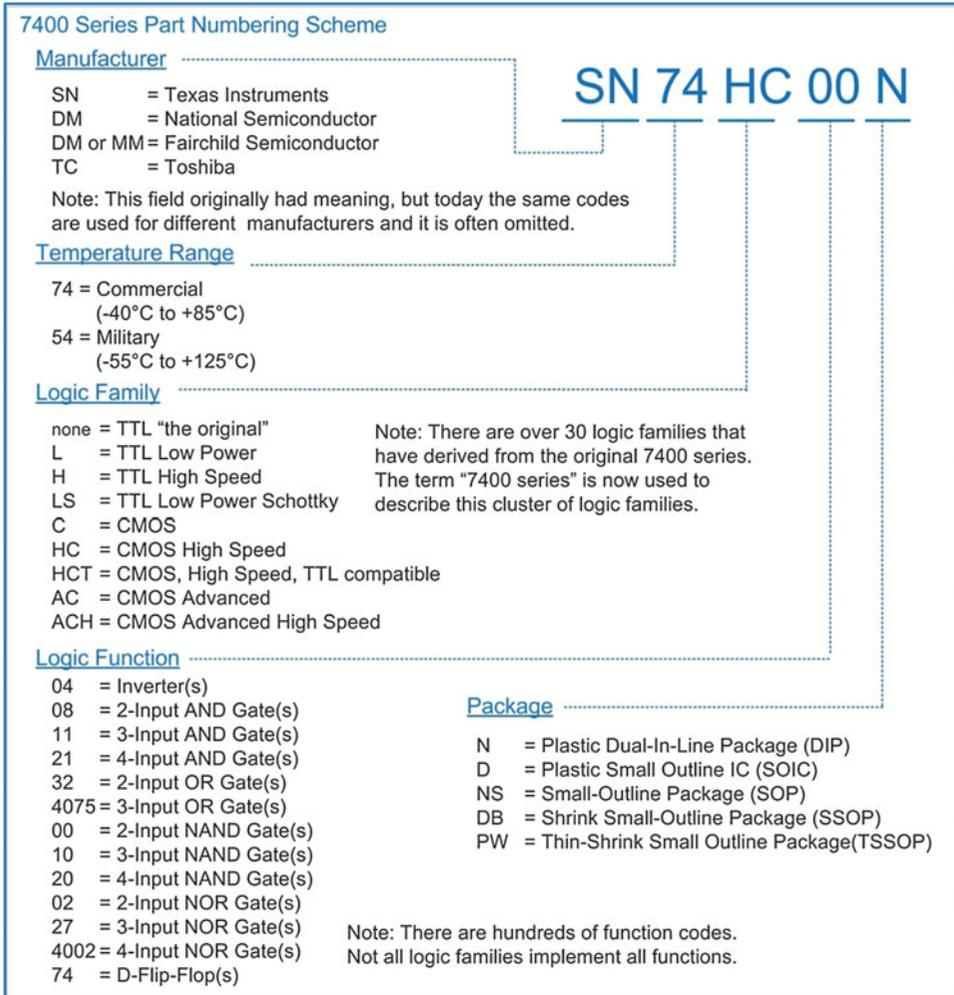

Fig. 3.32
The part numbering scheme for the 7400 series and its derivatives contains five different fields: (1) manufacturer, (2) temperature range, (3) logic family, (4) logic function, and (5) package type. The breakdown of these fields is shown in Fig. 3.32.